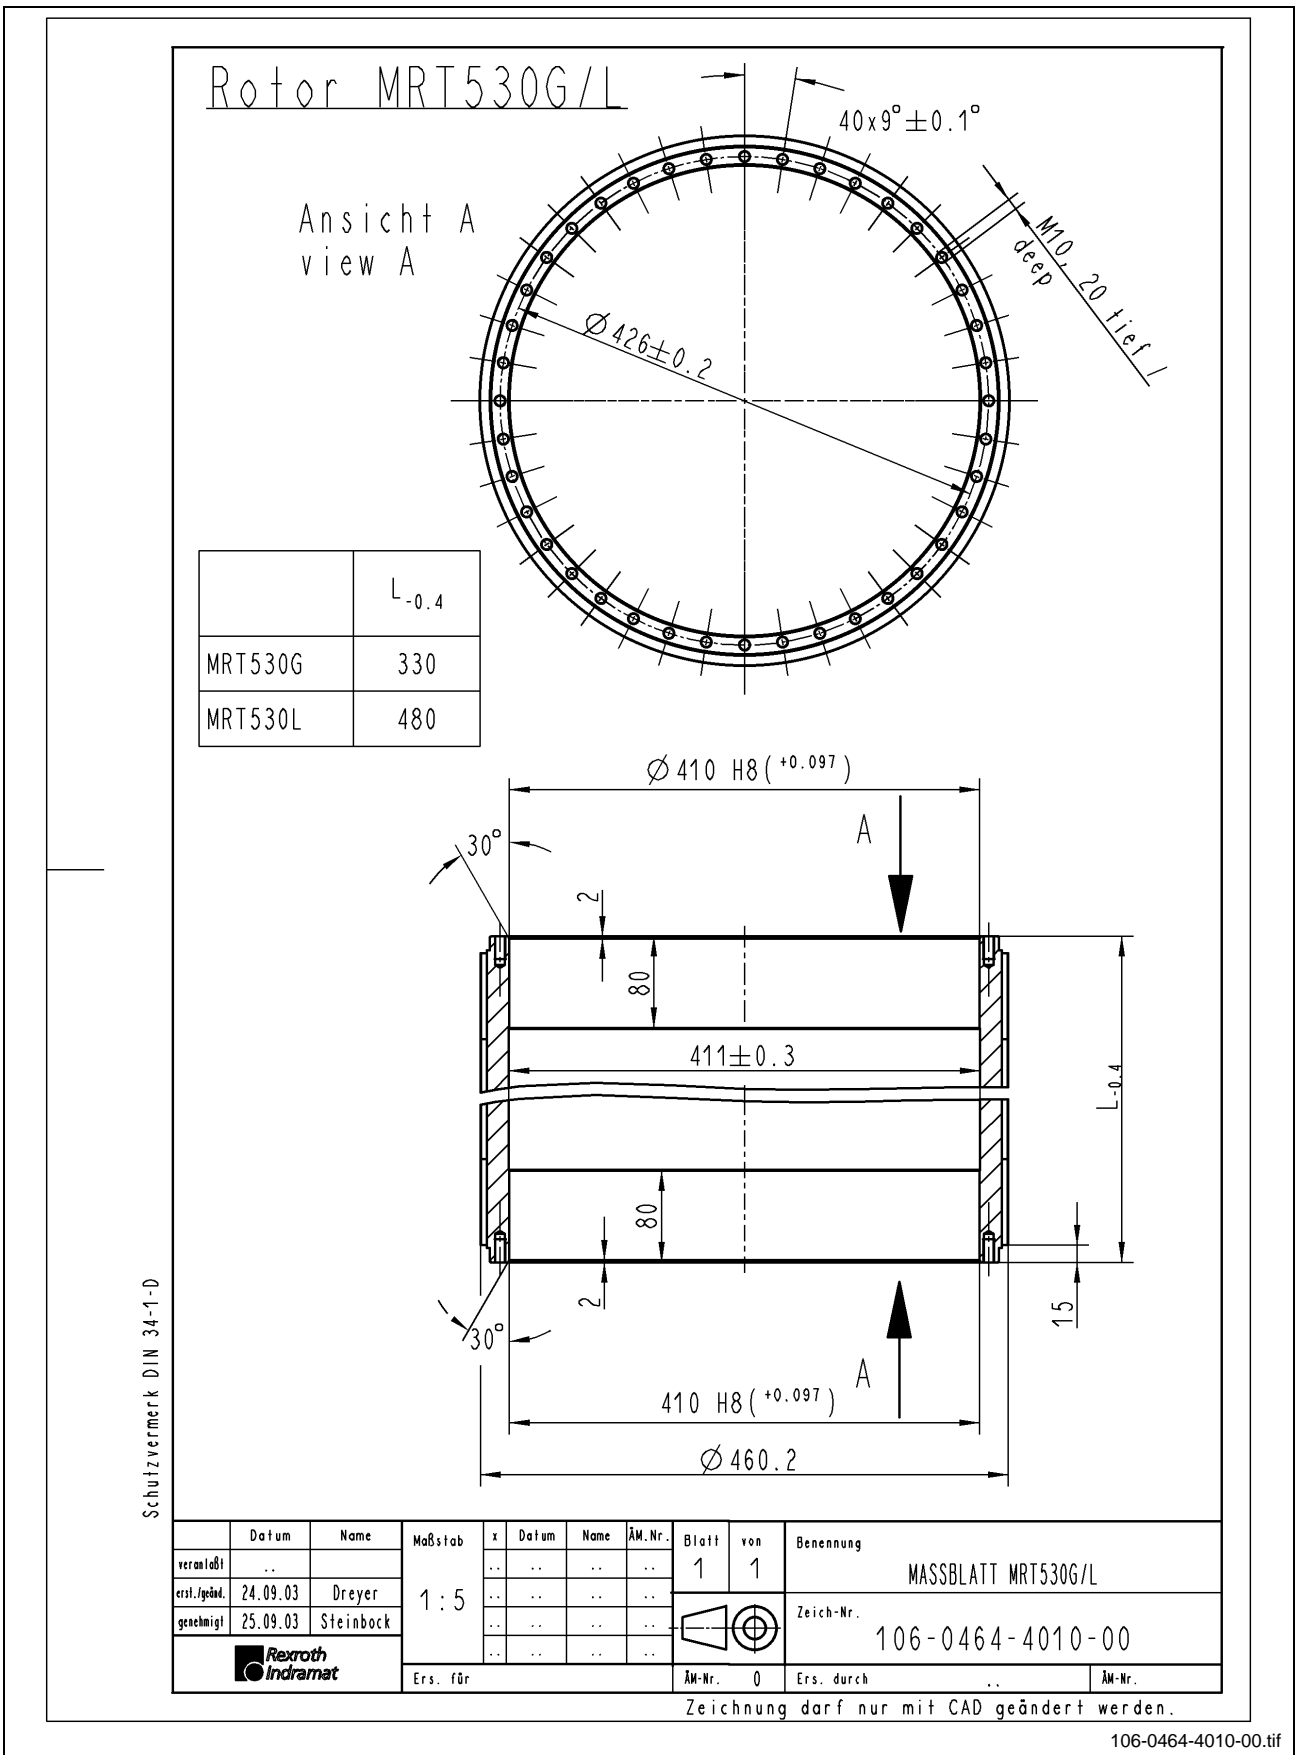

Fig. 15-2: Dimension sheet, rotor MRT530G / MRT530L
During installation, note the information in the dimension sheets Figs. 15-2 and 15-7
1. Connect the rotor, together with the spacer sleeve, to a clamp plate. After attachment is complete, it must be ensured that both centering diameters of the rotor hole have been guided onto the spacer sleeve. (see Fig. 15-2)